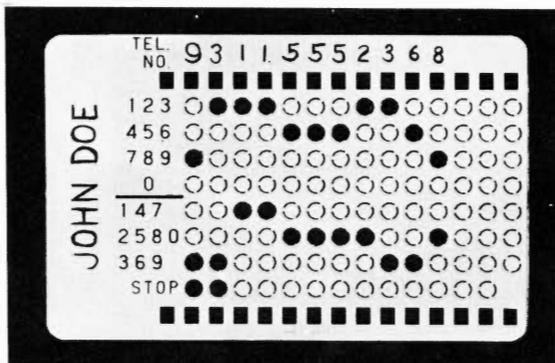

Fig. 6 - Card Coded for Access Code (9), Stop, Area Code (311) and 7-Digit Telephone Number
4.11 In certain PBX systems it may be necessary to dial an access code to obtain central office dial tone. To prepare a card for dialing an access code (Fig. 6) do the following: